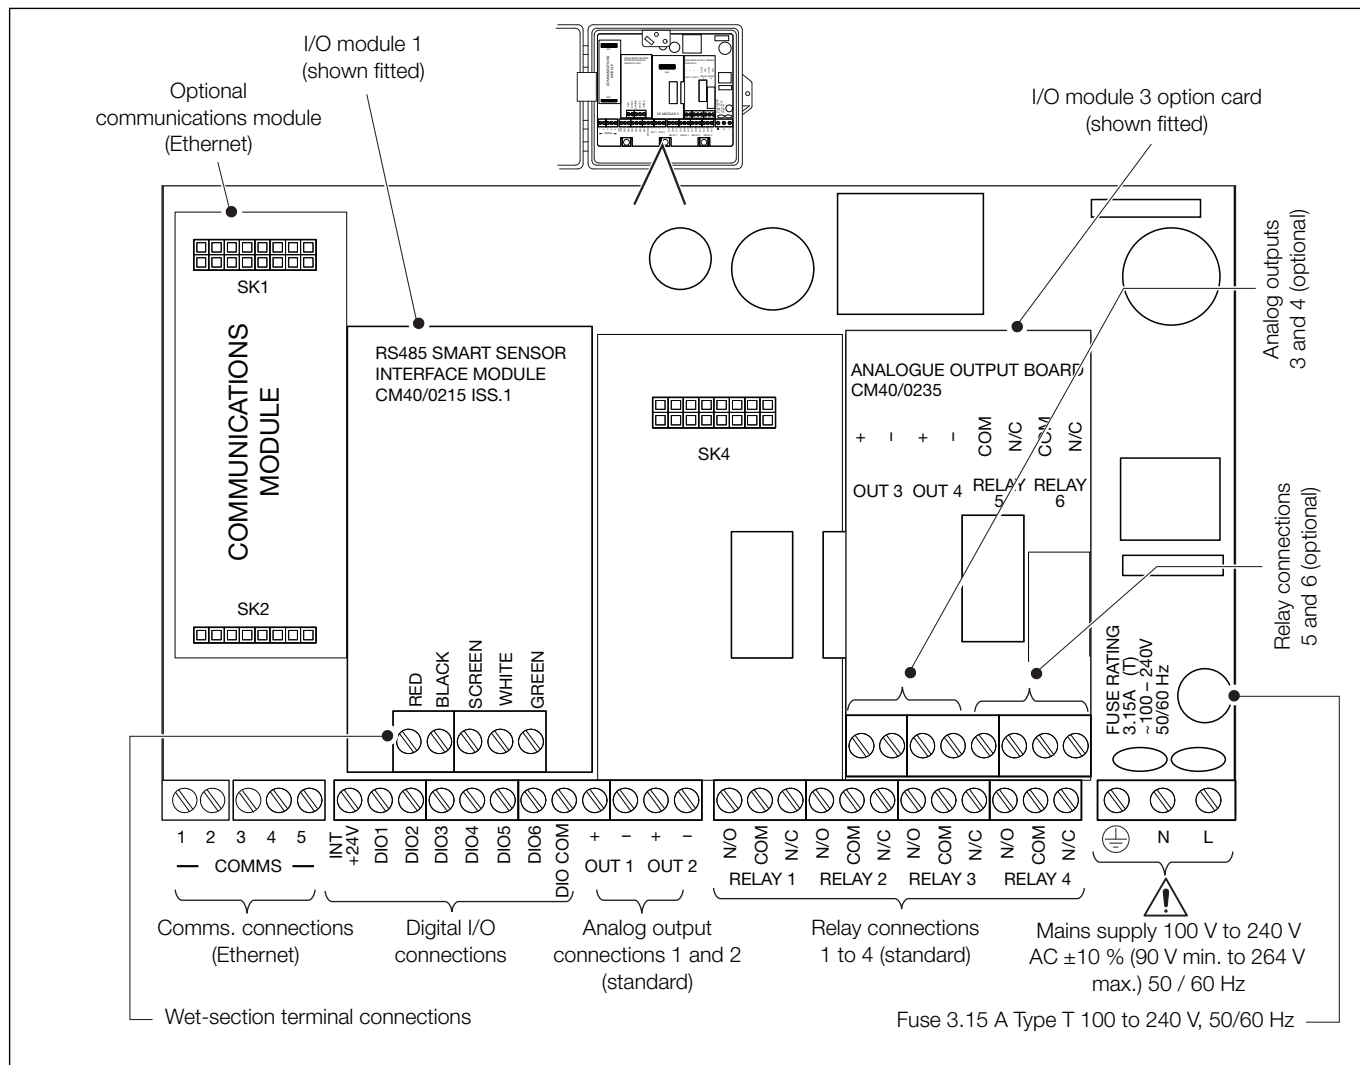

Fig. 3.14 Connections overview
- Ensure the correct fuses are fitted – Fig. 3.14, page 18 for fuse details.